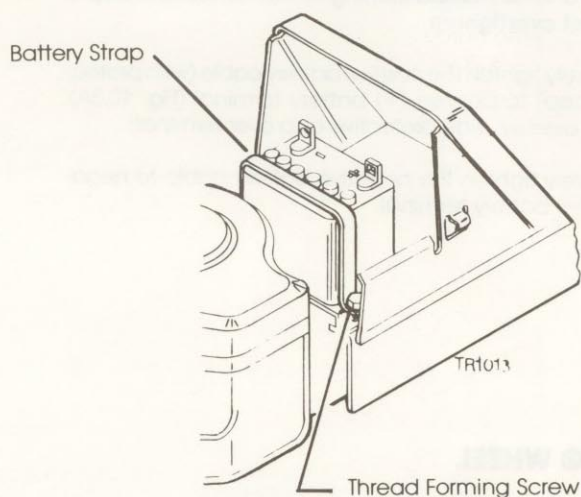

FIG. 10.2A
Refer to Fig. 10.2A.
- (2) $\frac{5}{16}$ Lock Washers
B. Clamp the battery in place (Fig. 10.2A). Use battery strap and two thread forming screws removed in step 1.